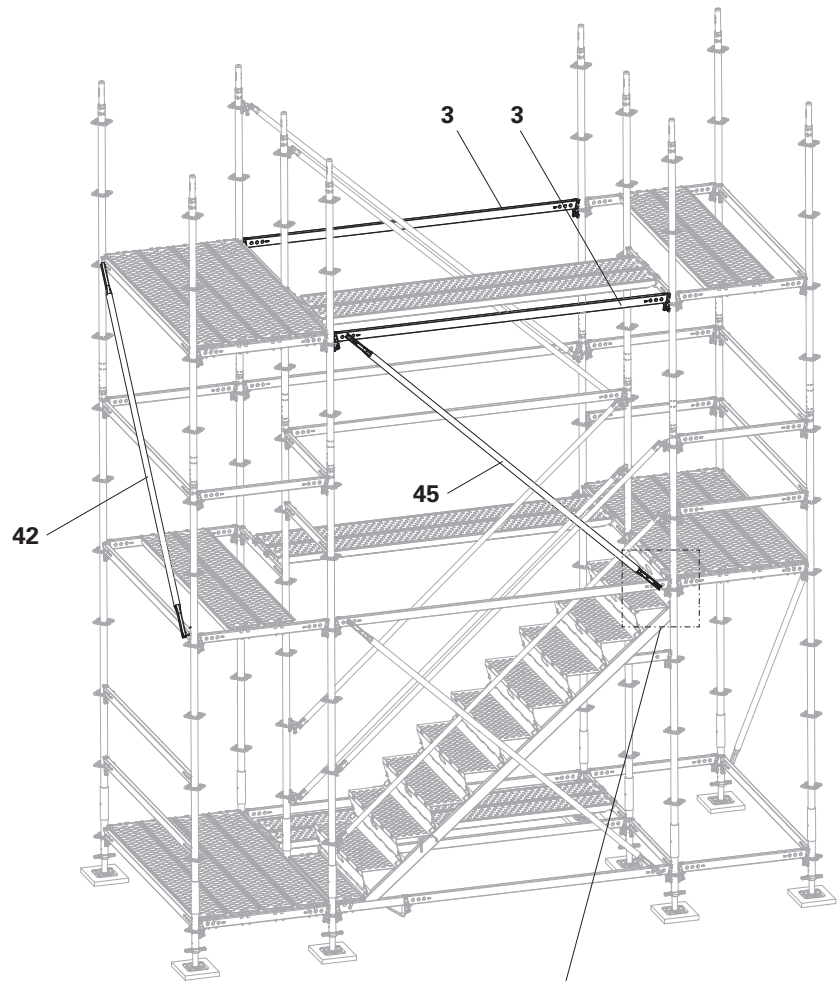

Fig. A3.03
3. Fit Horizontal Ledgers UH-2 250 (3) on the outside of the long sides.
4. Fit Ledger Brace UBL-2 250/200 (45) on the next level above the staircase.
5. Fit the Ledger Braces UBL-2 200/200 onto the sides of the platform with the mounting finger at the top and tilt finger at the bottom (42).
- (Fig. A3.03)